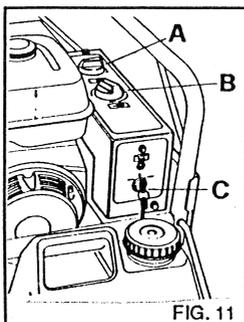

FIG. 11
#### CONTROL PANEL (fig. 11)
- 3) Start petrol engine by means of the proper switch (fig. 11). It is also possible to start the engine by means of the self-winding motor.